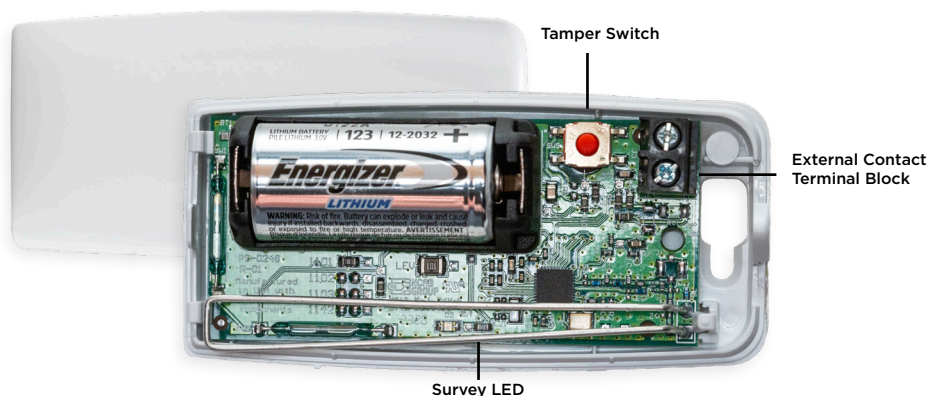
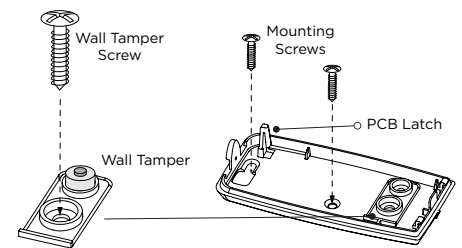

Figure 1: 1103 Layout
Figure 2: Mounting the Transmitter
2. Observing polarity, place the battery in the holder and press it into place. Refer to Figure 1 during installation.
When mounting the 1103, refer to Figure 1 and Figure 2 for battery and mounting hole locations.
3. Insert the included wall tamper screw as shown in Figure 2.